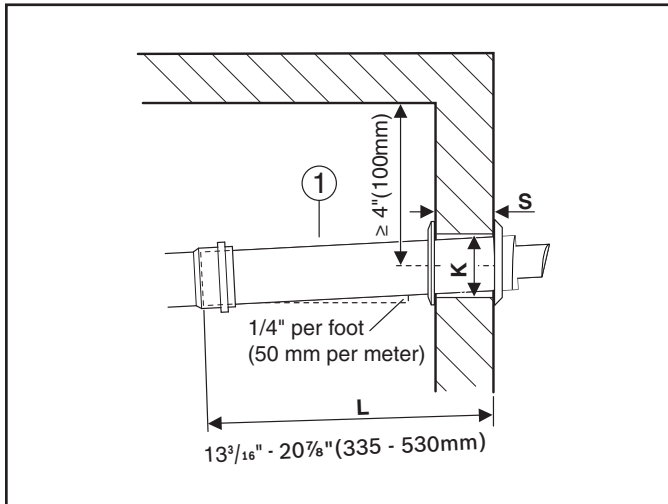

Fig. 4 Penetration through the outside wall
- ▶ Measure the length of the vent terminal assembly (→Fig. 4, [1]) taking into account the thickness of the outside wall [S] and the distance from the outside wall to the end of the vent pipe [L]. It is recommended to keep at least 4" (100mm) clearance from the ceiling or joists for accessibility reasons.
- ▶ Ensure all components are properly connected and aligned, and that the termination has the proper pitch as shown in Fig. 4.